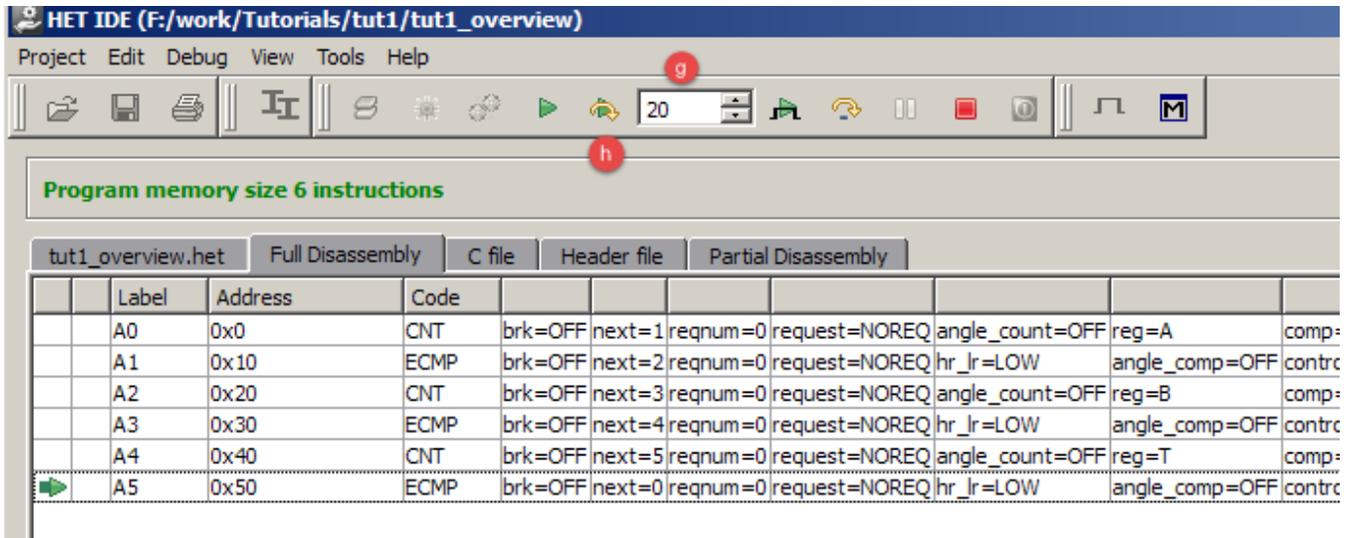

Figure 6. Controls for 'Run For Loops'
- (g) Enter 20 in edit box (after Run for Loops icon) in the tool bar (see item 'g' in Figure 6).
- (h) Select Debug → Run For Loops from the menu, or Click the Run for Loops button (see item 'h' in Figure 6).